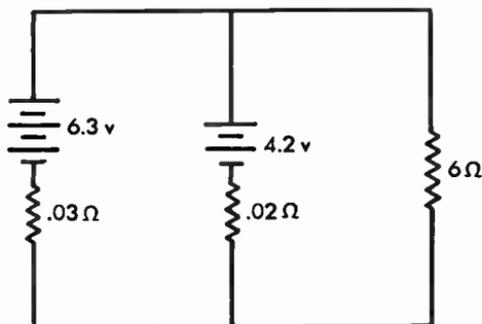

Fig. 2.21a Two sources of e.m.f. connected in parallel across a load of 6 ohms.
2.21 In Figure 2.21a find the load current I_L .